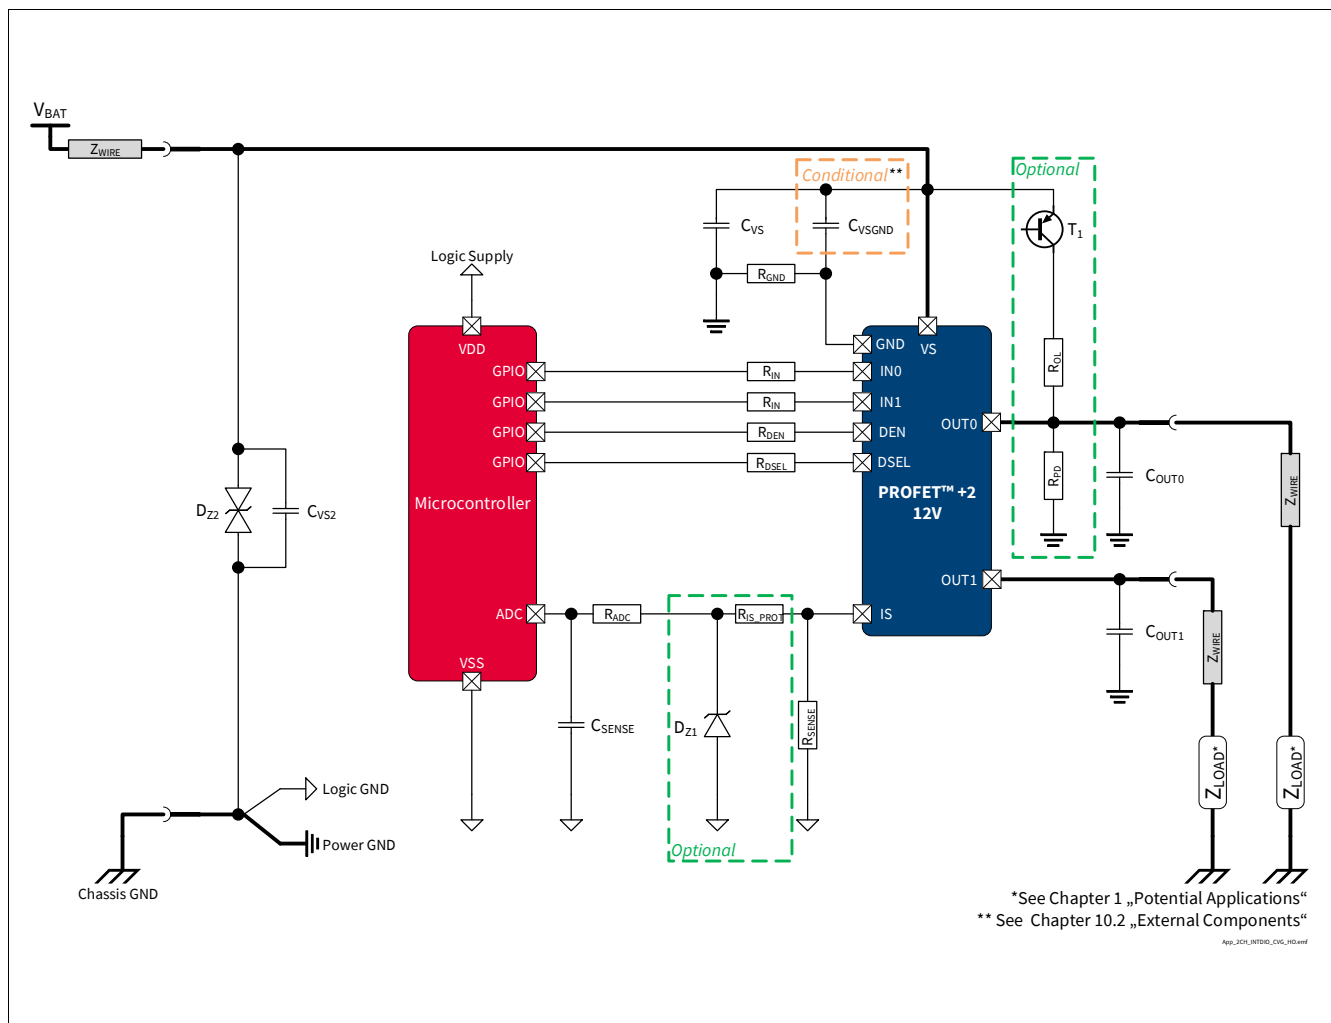

Figure 42 **BTS7200-2EPA Application Diagram**
1.03 , 2019-10-15	P_8.7.9.1, P_8.7.9.7, P_8.7.9.8 updated (added in Note or Test Condition: link to Figure 25) P_7.5.9.4, P_7.5.9.5 updated (added in Note or Test Condition: DEN = “low”; link to Figure 19) P_7.5.9.12 updated (added in Note or Test Condition: See Figure 21; deleted unnecessary space in Symbol: $dV_{OUT} / dt \rightarrow dV_{OUT} / dt$) P_8.7.9.6 updated (added in Note or Test Condition: see Figure 26) P_9.7.9.1 updated (added in Note or Test Condition: See Figure 33) P_9.7.9.5 updated (Min./Typ./Max.: -45%/670/+45% → -25.0%/665/+25.0%) P_9.7.9.6 updated (Min./Typ./Max.: -36%/670/+36% → -24.0%/665/+24.0%) P_9.7.9.8 updated (Min./Typ./Max.: -30%/670/+30% → -22.5%/665/+22.5%) P_9.7.9.12 updated (Min./Typ./Max.: -14%/670/+14% → -11.0%/665/+11.0%) P_9.7.9.13 updated (Min./Typ./Max.: -11%/670/+11% → -8.5%/665/+8.5%) P_9.7.9.15 updated (Min./Max.: -6%/+6% → -6.0%/+6.0%) P_9.7.9.17 updated (Min./Max.: -5%/+5% → -5.0%/+5.0%) P_7.5.9.11 updated (added in Note or Test Condition: See Figure 19) Figure 1, Figure 42 updated Chapter 1 updated (or LED equivalent → or equivalent electronic loads (e.g. LED modules)) P_4.3.0.7 added Table 24 updated Chapter 5.1 updated (added: see Chapter 10 for the complete application setup overview)